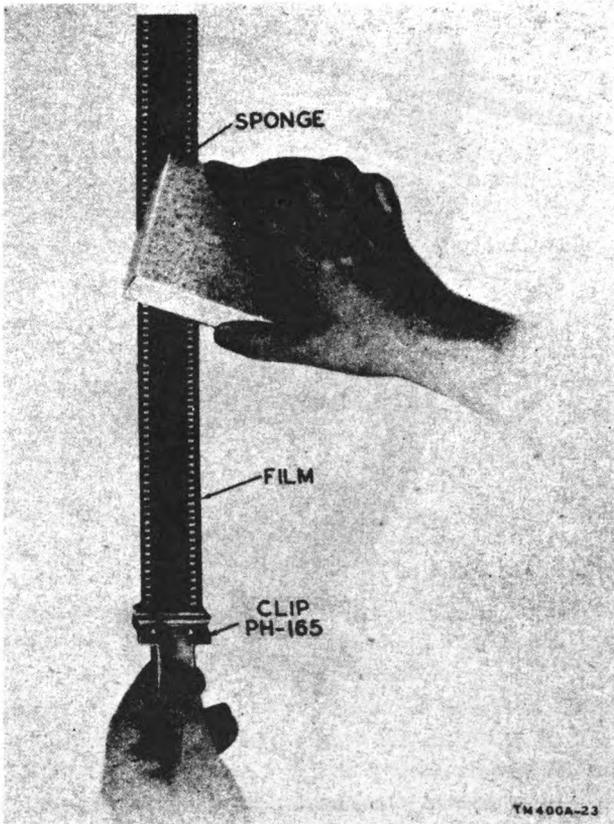

Figure 23. Wiping film.
i. Wiping (fig. 23).
- (1) Wet the viscose sponge, squeeze out the excess water, and wipe the front and back of the film to remove water drops. Select a location which is free from dust. If the temperatures of the processing solutions and wash water exceed normal, the film emulsions may be excessively soft and swollen. In such cases the wiping must be omitted to avoid damage.
- (2) Hang the negatives up so that they may dry thoroughly before they are put in the negative carrier.
- (3) Wash out the tank, cover assembly, and magazine chamber knob; dry them thoroughly before re-using.